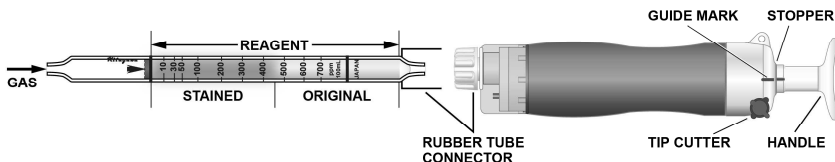

Fig.1
- ① Break both ends of the detector tube.
- ② Insert the detector tube into the aspirating pump securely as shown in Fig.1. (Arrow mark shall point to the pump.)
- ③ Align the guide marks on the shaft and stopper of the aspirating pump.
- ④ Pull the pump handle at a full stroke until it locks and wait for 1 minute or until the completion of sampling is confirmed with the flow indicator of the pump. (See descriptions about the flow indicator in the instruction manual of the pump.)
- ⑤ On completion of sampling, read the scale at the maximum point of the stained layer.
- ⑥ When the concentration is over the scale range, a 1/2 pump stroke can be used to determine concentrations of 20 to 1400 ppm.